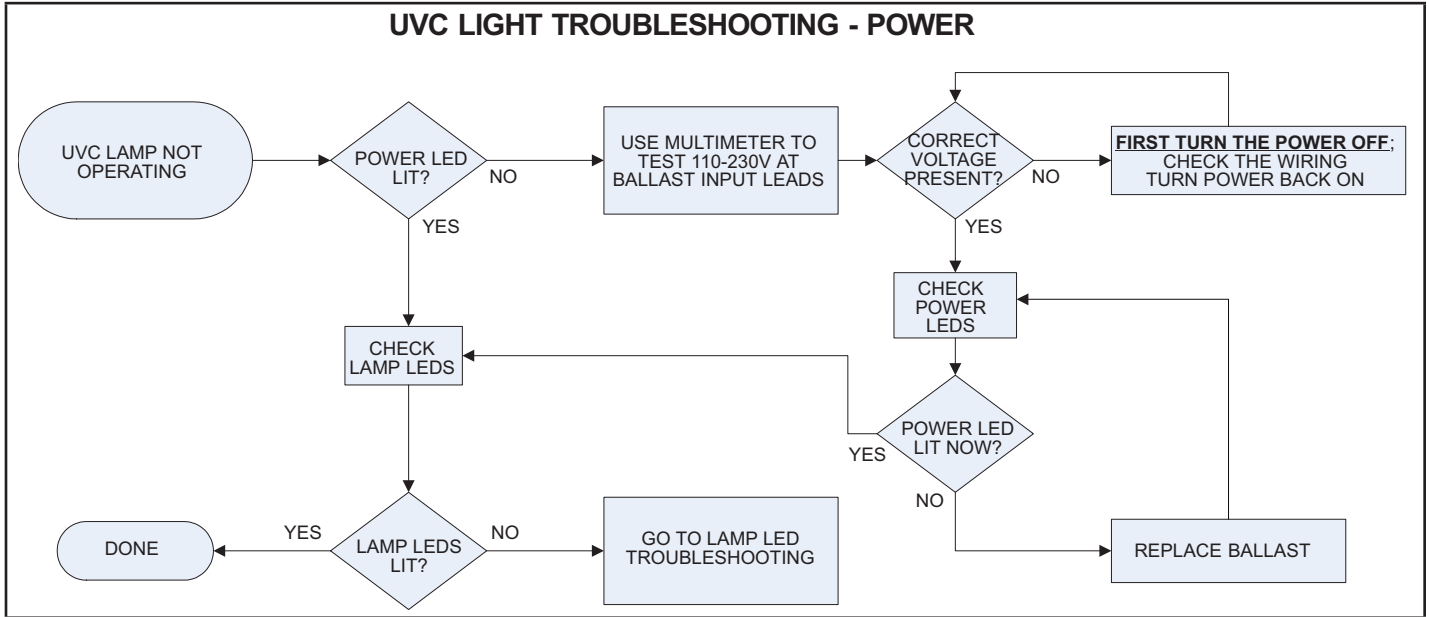
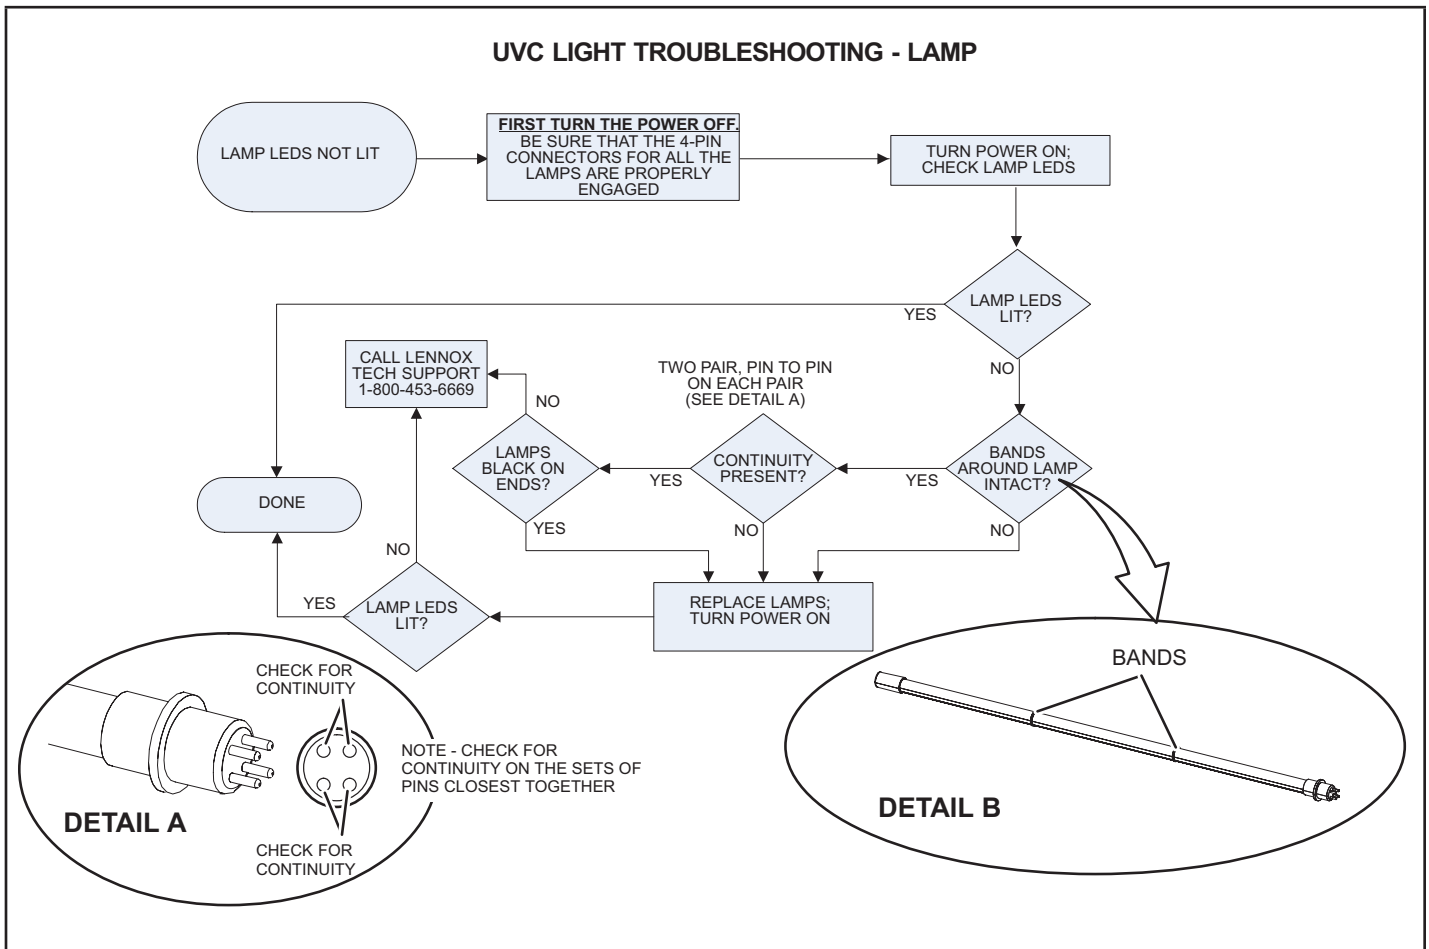

FIGURE 37
FIGURE 38
- 2 - Ohm-check across the lamp pins to check for continuity of lamp filaments (see FIGURE 38).
Troubleshooting charts are provided to aid in determining the cause of any problems encountered (FIGURE 37 and FIGURE 38).